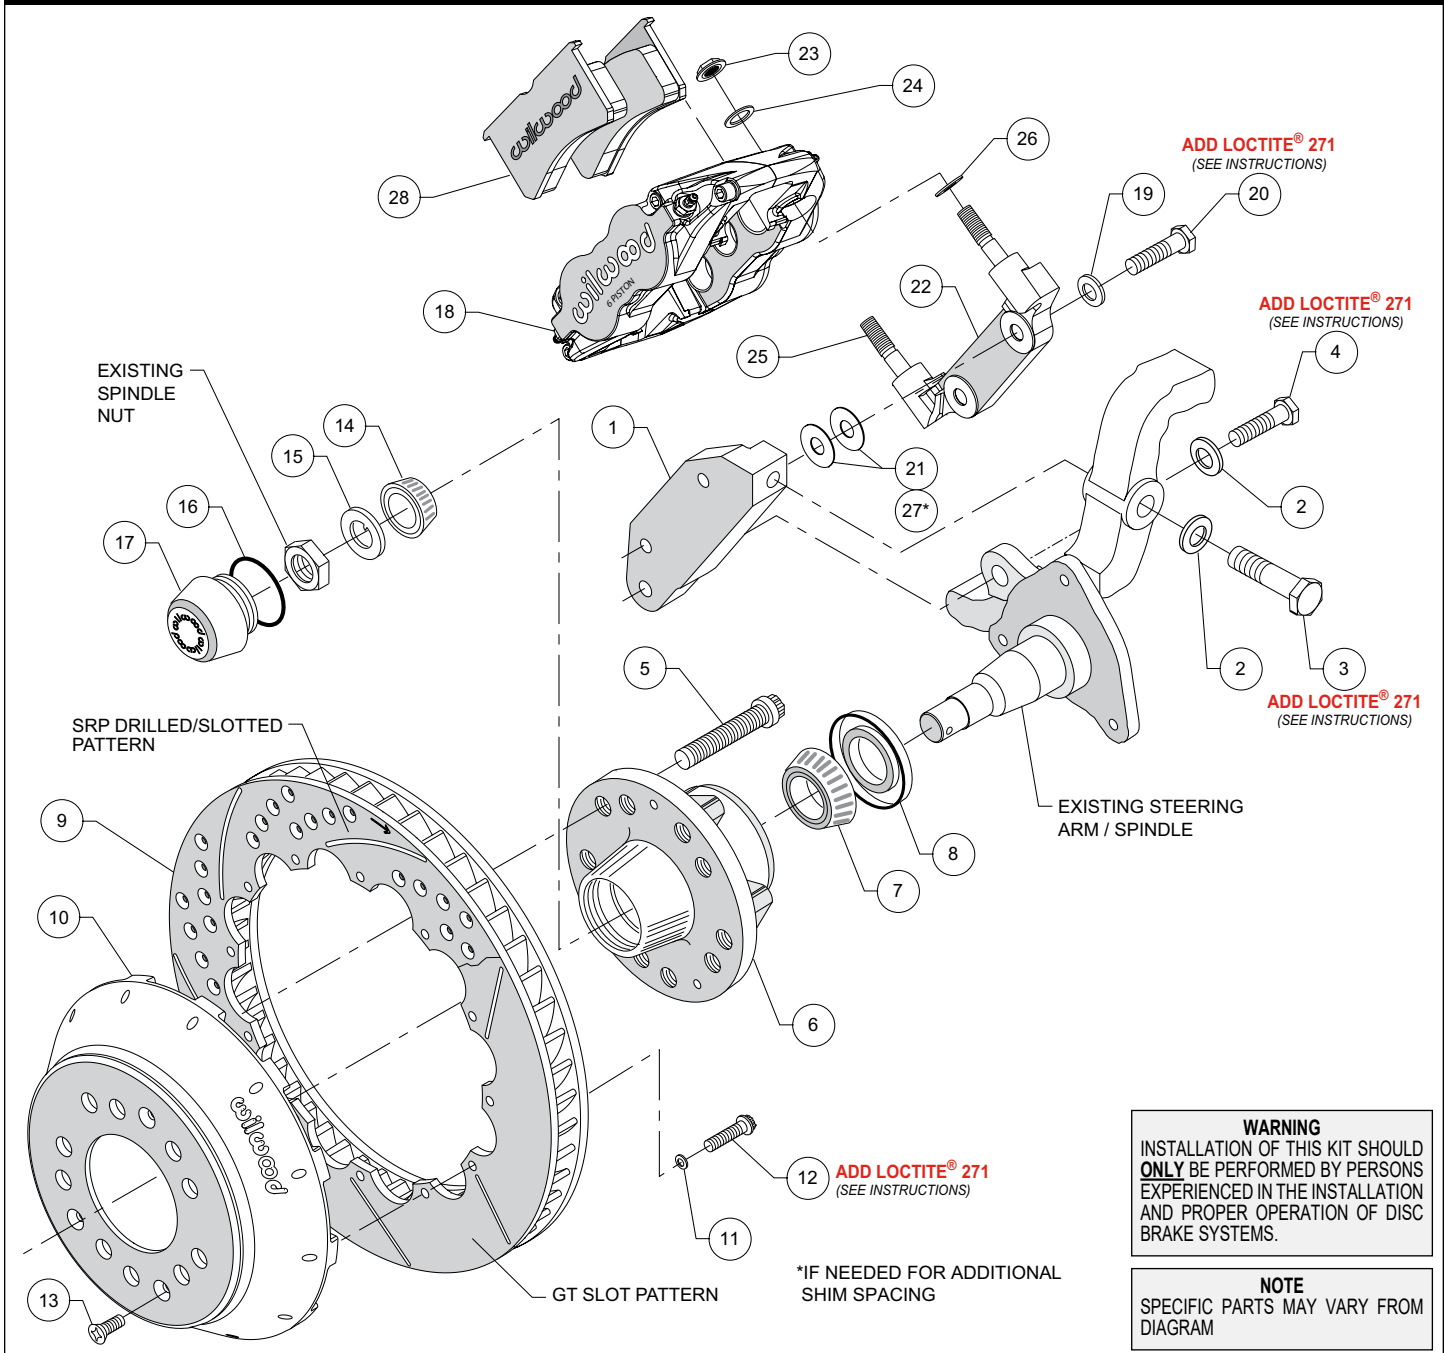

Figure 1. Typical Installation Configuration
- Mount the radial mount caliper bracket (22) to the first “flat” caliper mounting bracket (1) from the far side using washers (19) and bolts (20), as shown in Figure 1. Initially place two .030 thick shims (21) between the two brackets. Temporarily tighten the bolts.
- NOTE:** This kit contains distinct right and left hand calipers that must be mounted in a specific direction, as described below. Initially place one .035” thick shim (26) on each stud as shown in Figure 1. Mount the caliper (18) onto the bracket (1) using lock nuts (23) and washers (24), Figure 1. Ensure that the caliper is mounted so that the largest pistons are at the rotor exit end of the caliper, in relation to the direction of rotor rotation. Temporarily tighten the lock nuts and view the rotor through the top opening of the caliper. The rotor should be centered in the caliper. If not, adjust by adding or subtracting .030” shims (21), or add .015” thick shims (27), as necessary between the radial mount bracket (22) and the flat bracket (1). Always use the same amount of shims on each of the two mounting bolts. Once the caliper alignment is correct, remove the bracket mounting bolts (20) one at a time, apply red *Loctite*® 271 to the threads, and torque to 42 ft-lb.